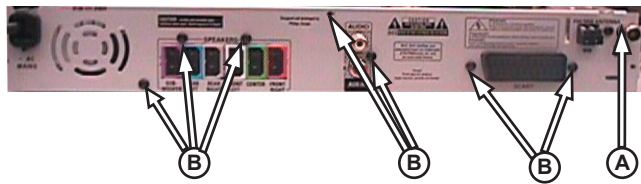

Figure 4-3
- 1) Loosen 1 screw A (see Figure 4-3) to remove the Tuner Module (pos 1040).
- 2) Loosen 9 screws B (see Figure 4-3) and 4 screws (see Figure 4-4) to remove MONO Board.
- 1 snap hook each on the left & right side (pos 161).
- 2 snap hooks on the bottom side (pos 161).